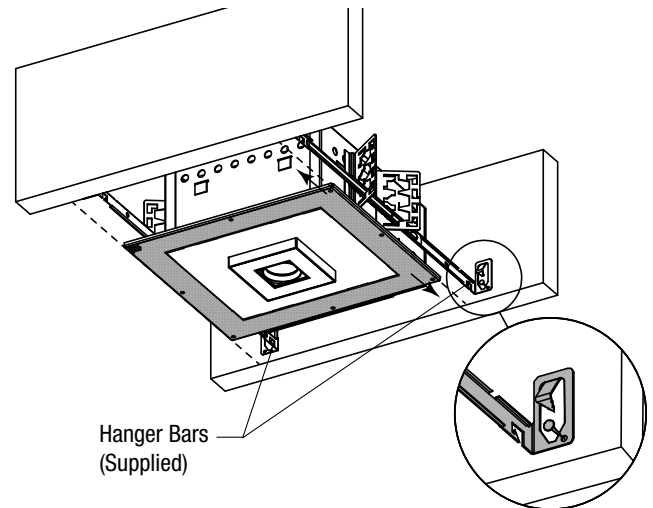

FIGURE 2
Step 1. Extend HANGER BARS to fit between joist and attach to joist or frame member using appropriate hardware for material. **See Fig 2, Detail 2A.**